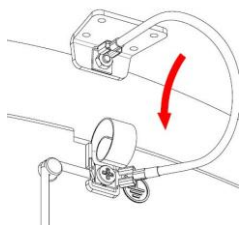

Figure 8
- Connect earth wire supplied from the upper rib of metal casing to grounding terminal on base plate as shown on Fig.8.
- Carefully place the casing on the base of the device. To do so place it over the base with a slight incline from top to bottom, in such a way that the tab in the casing correctly inserts into the corresponding slot in the base (Figure 8).